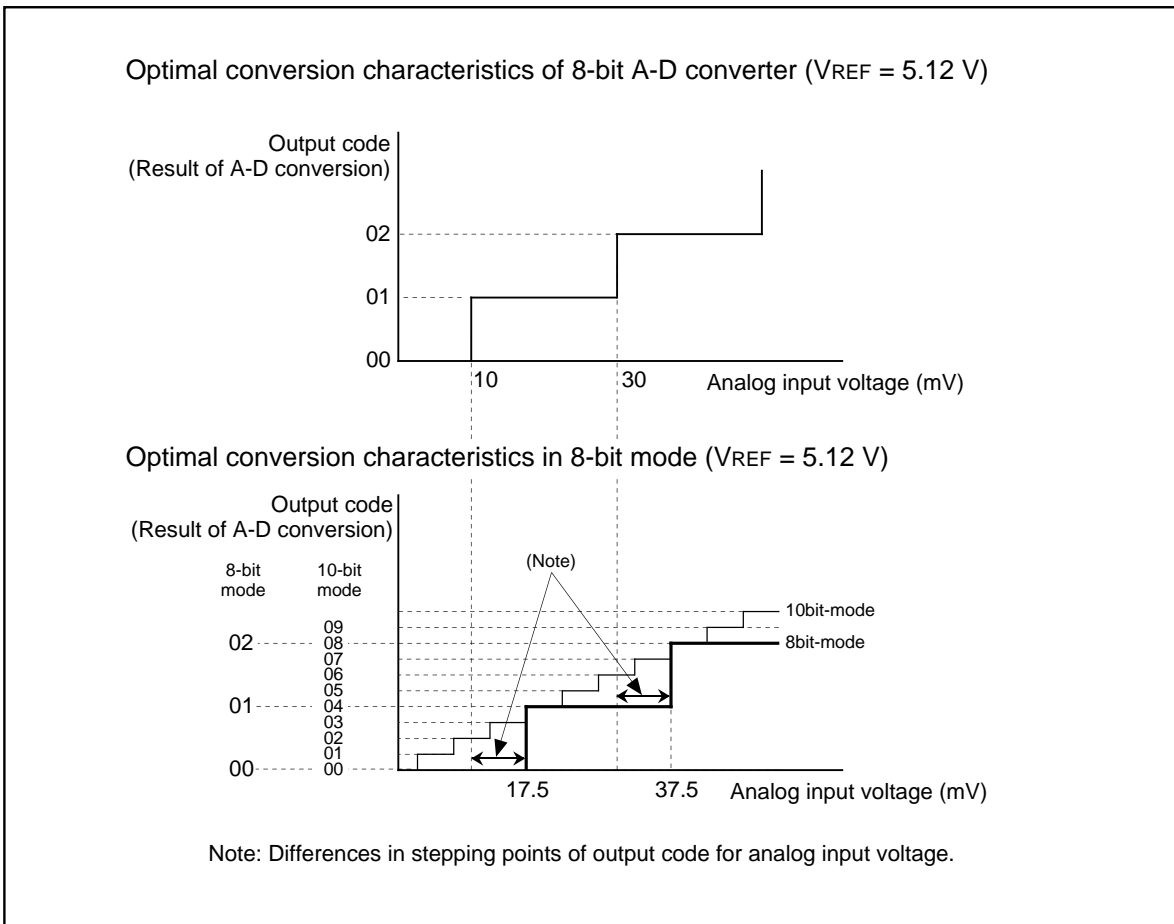

Figure 2.7.24. The level conversion characteristics of 8-bit mode and 8-bit A-D converter
(1) In 8-bit mode, 8 higher-order bits of the 10-bit successive comparison register becomes A-D conversion result. Hence, if compared to a result obtained by using an 8-bit A-D converter, the voltage compared is different by 3 VREF/2048 (see what are underscored in Table 2.7.12), and differences in stepping points of output codes occur as shown in Figure 2.7.24.